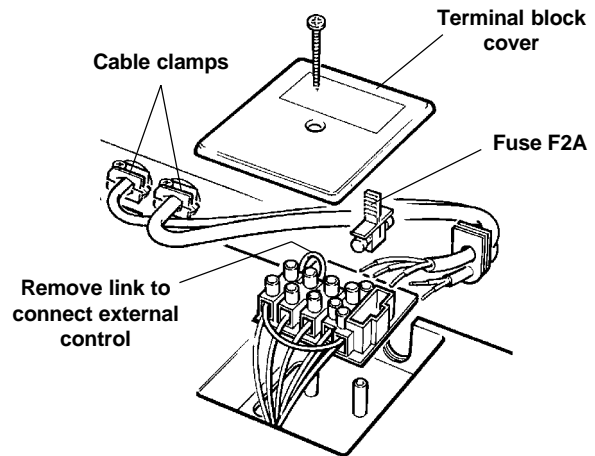

Fig. 16
#### 4.9 CONNECT THE MAINS SUPPLY - Fig. 16
2. Remove the screw securing the terminal block cover from the back of the control box (see Fig. 16). Pass the mains supply cable through the cable clamp, terminal block grommet and connect as follows:- Brown to L, Blue to N and Green/Yellow to  $\perp$ . Ensure correct polarity.